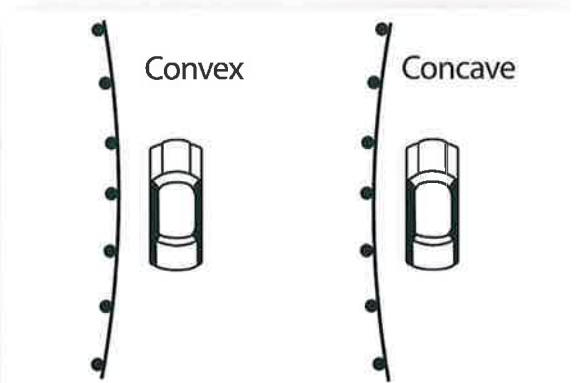

Figure 10: Curvature Orientation
- 5. Determine the curvature orientation from Figure 10.